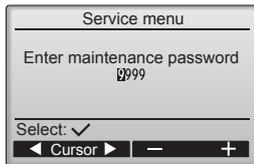

Fig. 7-2
- (1) Select "Service" from the Main menu, and press the button.
- (2) When the Service menu is selected, a window will appear asking for the password. (Fig. 7-2)